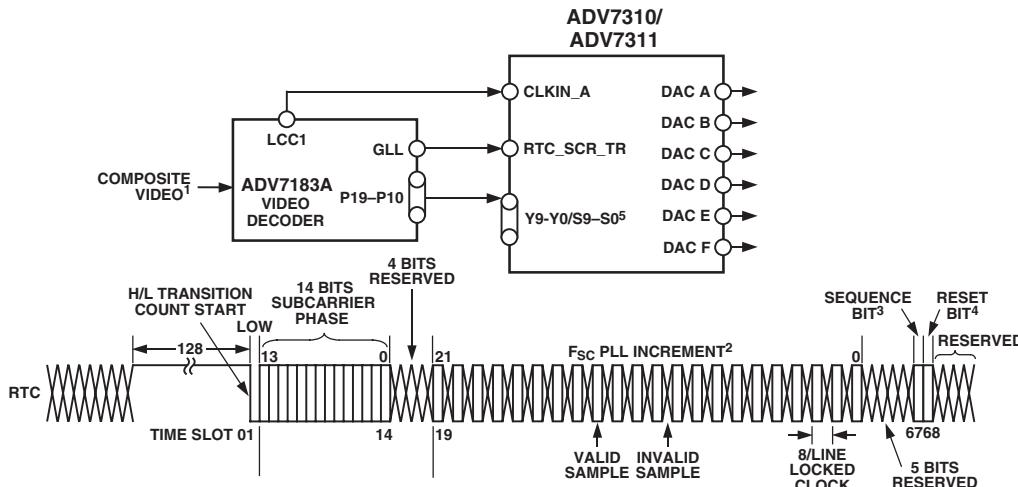

Figure 32. RTC Timing and Connections
- In RTC mode, the ADV7310/ADV7311 can be used to lock to an external video source. The real-time control mode allows the ADV7310/ADV7311 to automatically alter the subcarrier frequency to compensate for line length variations. When the part is connected to a device that outputs a digital data stream in the RTC format, such as an ADV7183A video decoder (see Figure 32), the part will automatically change to the compensated subcarrier frequency on a line by line basis. This digital data stream is 67 bits wide and the subcarrier is contained in Bits 0 to 21. Each bit is two clock cycles long. 00h should be written into all four subcarrier frequency registers when this mode is used.
Figure 32 illustrates the **RESET** sequence timing.